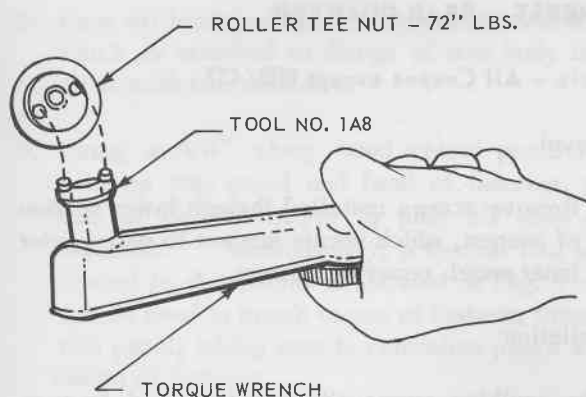

FIG. 4 - 3
7. Install plastic bushings and roller tee nuts on reverse side of glass, torquing tee nuts to 72 in. lbs. (see Fig. 4 - 3).